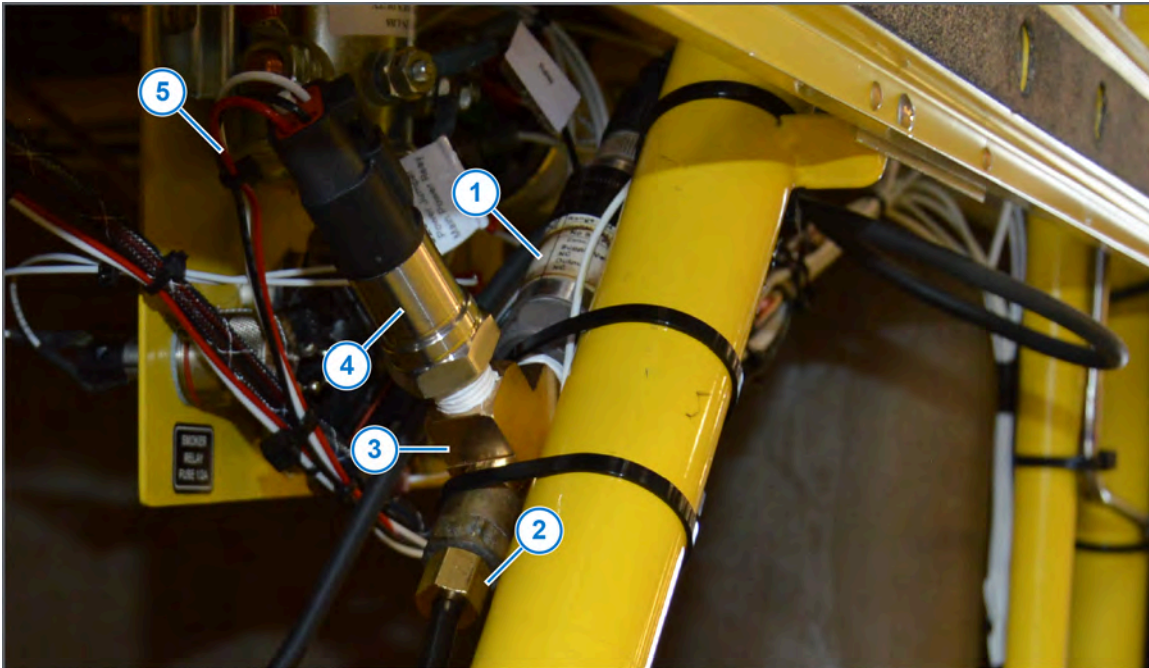

Figure 31: Pressure Sensor Installation
2. Remove the existing pressure sensor (Figure 31, Item 1) from the existing fitting (Figure 31, Item 2).
3. Install the existing hose and fitting (Figure 31, Item 2) onto the supplied ¼ NPT tee street fitting (Figure 31, Item 3).
See Figure 31
4. Put thread sealant tape on the threads of the existing pressure sensor (Figure 31, Item 1).
7. Put thread sealant tape on the threads of the new CapstanAG pressure sensor (Figure 31, Item 4)
9. Connect the *pressure sensor extension harness* (Figure 31, Item 5) to the pressure sensor.